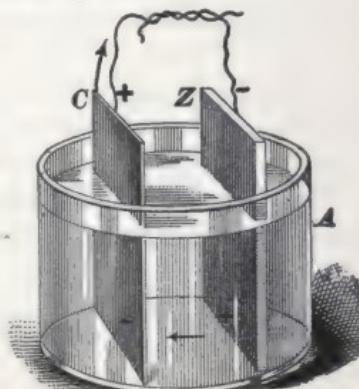

FIG. 2.
**12.** A simple voltaic, or **galvanic**, cell, Fig. 2, is an apparatus for developing a continuous current of electricity. It consists essentially of a vessel containing saline or acidulated water in which are submerged two plates of dissimilar metals, or one metal and a metalloid (as, for instance, carbon).